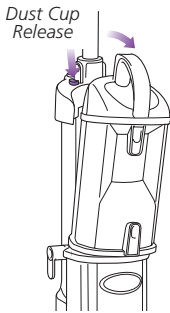

Fig. 11
- 1 Press the dust cup release button on the top of the unit. Pull the dust cup out of the unit by pulling forward on the handle. (Fig. 11)